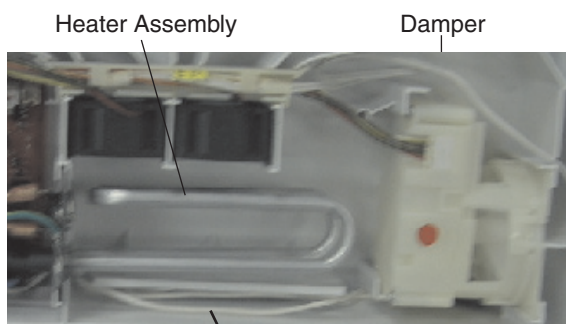
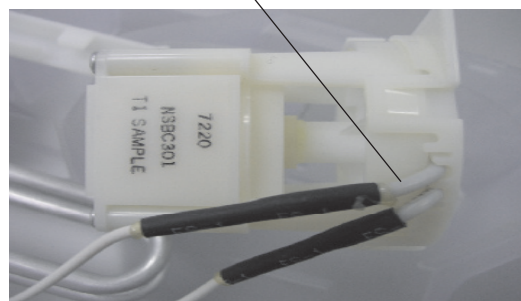

Figure 11 Damper heater wiring harness
Figure 12
2. A 12 V DC stepper motorized damper (See Figure 11) with a 3 watt 115 V AC electric heater to control freezing of the damper door. (See Figure 12.)